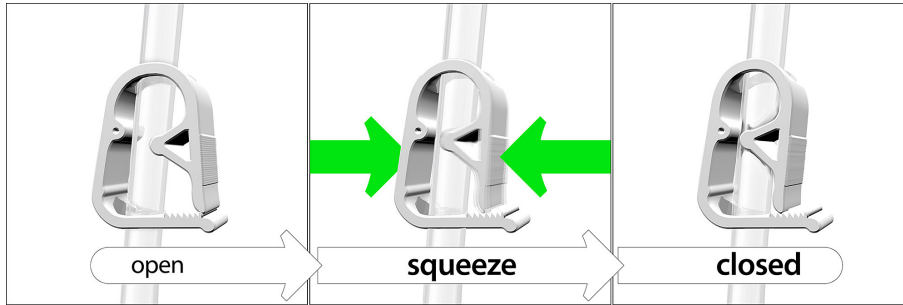

Figure 17
1. Close the tubing clamp (**Figure 17**).
2. Close tubing clamp (**Figure 17**).